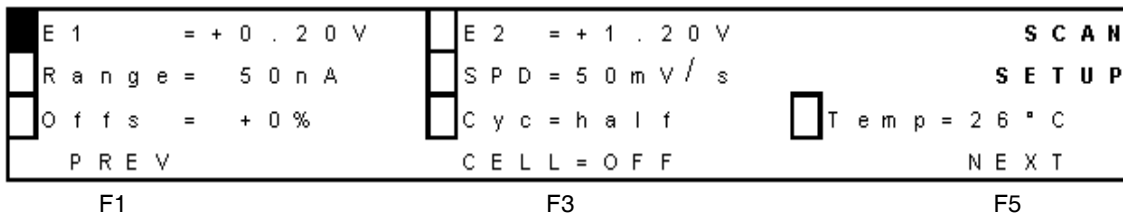

Figure 3-61 Scan Setup Screen
- From the Main screen, select **F4 SCAN**. The Scan Setup screen appears (Figure 3-61) and the value for F3 CELL is OFF.